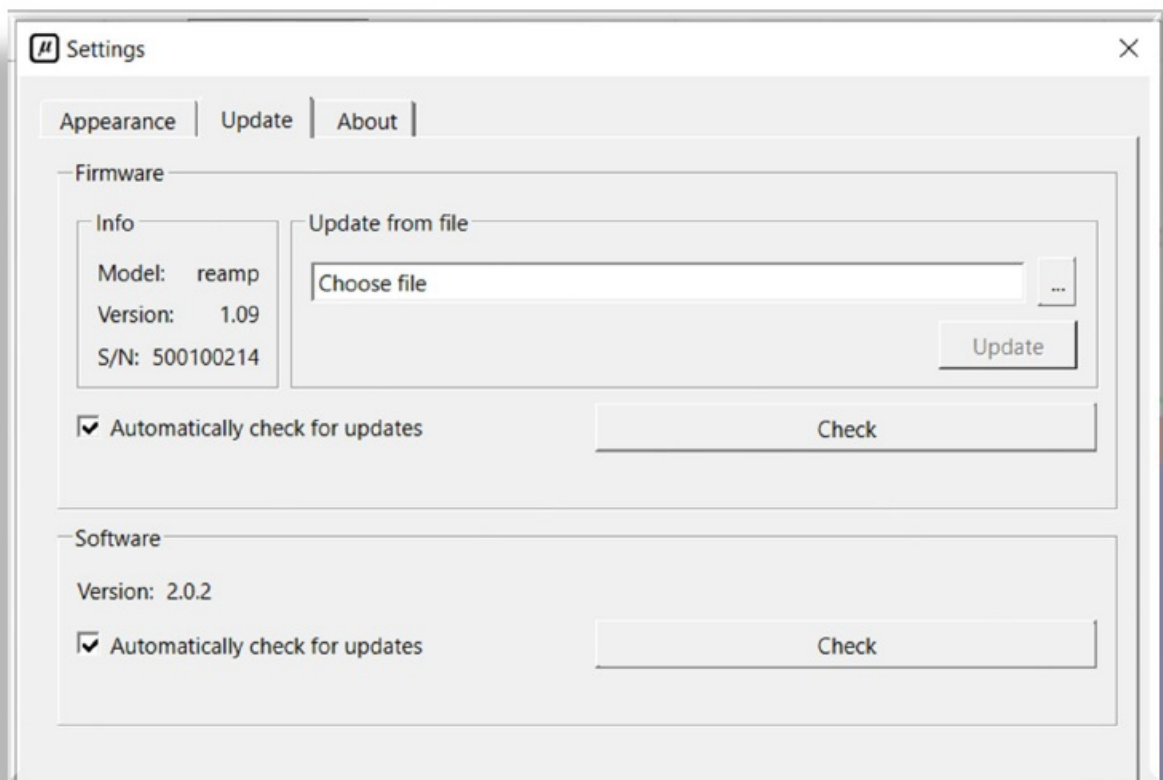

FIGURE 5.12: UPDATE OF REAPM FIRMWARE AND SOFTWARE
- REAMP firmware can be updated by the REAMP-logger program (see Figure 5.12) or by RigExpert Flash Tool (<https://rigexpert.com/files/software/FlashTool/>)
- REAMP-logger software is updated as shown in Figure 5.12 or by rigexpert.com.
- Select Settings → Update – See Figure 5.12